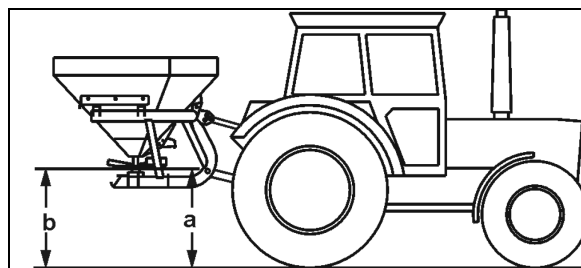

Fig. 21
- Fix lower link of tractor on lower link pin (cat I) (Fig. 21/1) and secure by using a clip pin.
- Attach the upper link of the tractor by using the upper link pin (Fig. 21/2) to the upper coupling point of the machine and secure by using a lynch pin (Fig. 21/3).